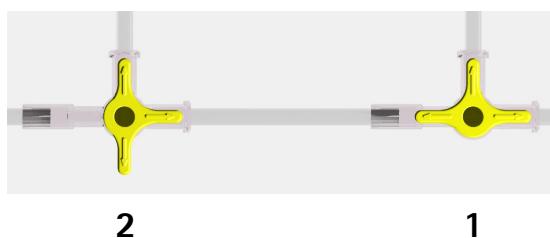

Fig. 7 - 4
- Vent test setup, for position of the three-way cocks please see Fig. 7 - 3, start infusion and deliver first of all in to an open system (without pressure gauge).